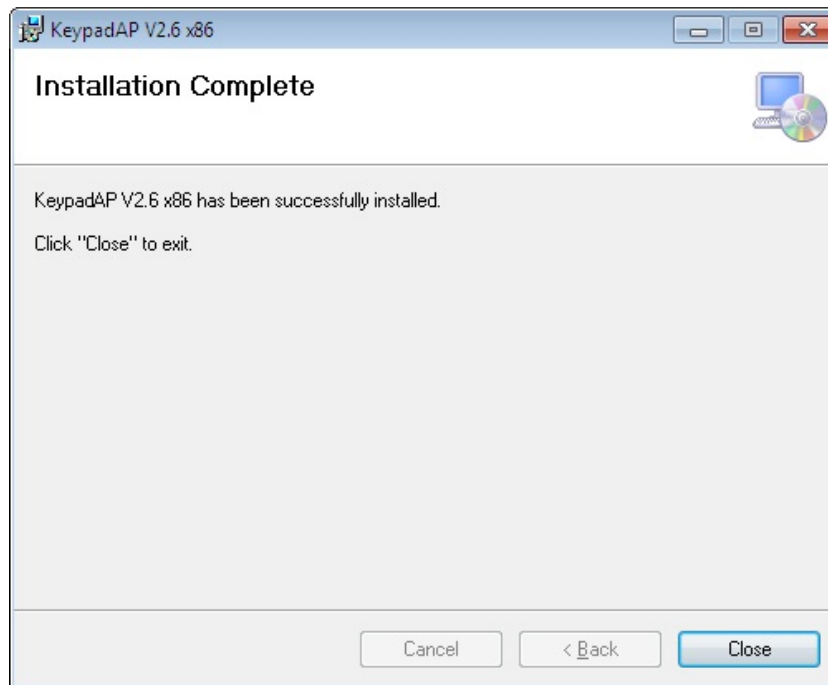

Figure 6-40: Keypad AP Installation Complete
Step 10: When the installation is complete, the screen in **Figure 6-40** appears. Click **Close** to exit.